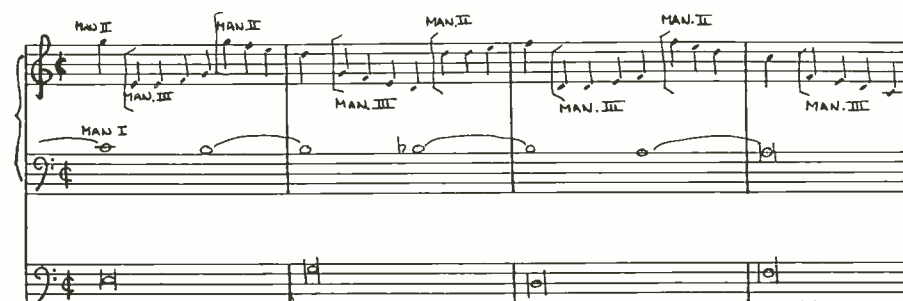

Fig. 7. Showing the use of three manuals. (Fantasia in Echo Style, Jan Pieter Sweelinck)
Occasions arise when more than two manuals are virtually necessary. Figure 7 is an example. This is a portion of the "Fantasia in Echo Style" of Sweelink (ref. 17, pg. 21). Here the player's feet and left hand supply accompanying harmonies on suitable stops of the pedal and one manual while the right hand alternates rapidly between two other manuals on which contrasting solo stops produce a series of naively quaint echo effects. Although this work can be played on two manuals, it is much more effective on three.